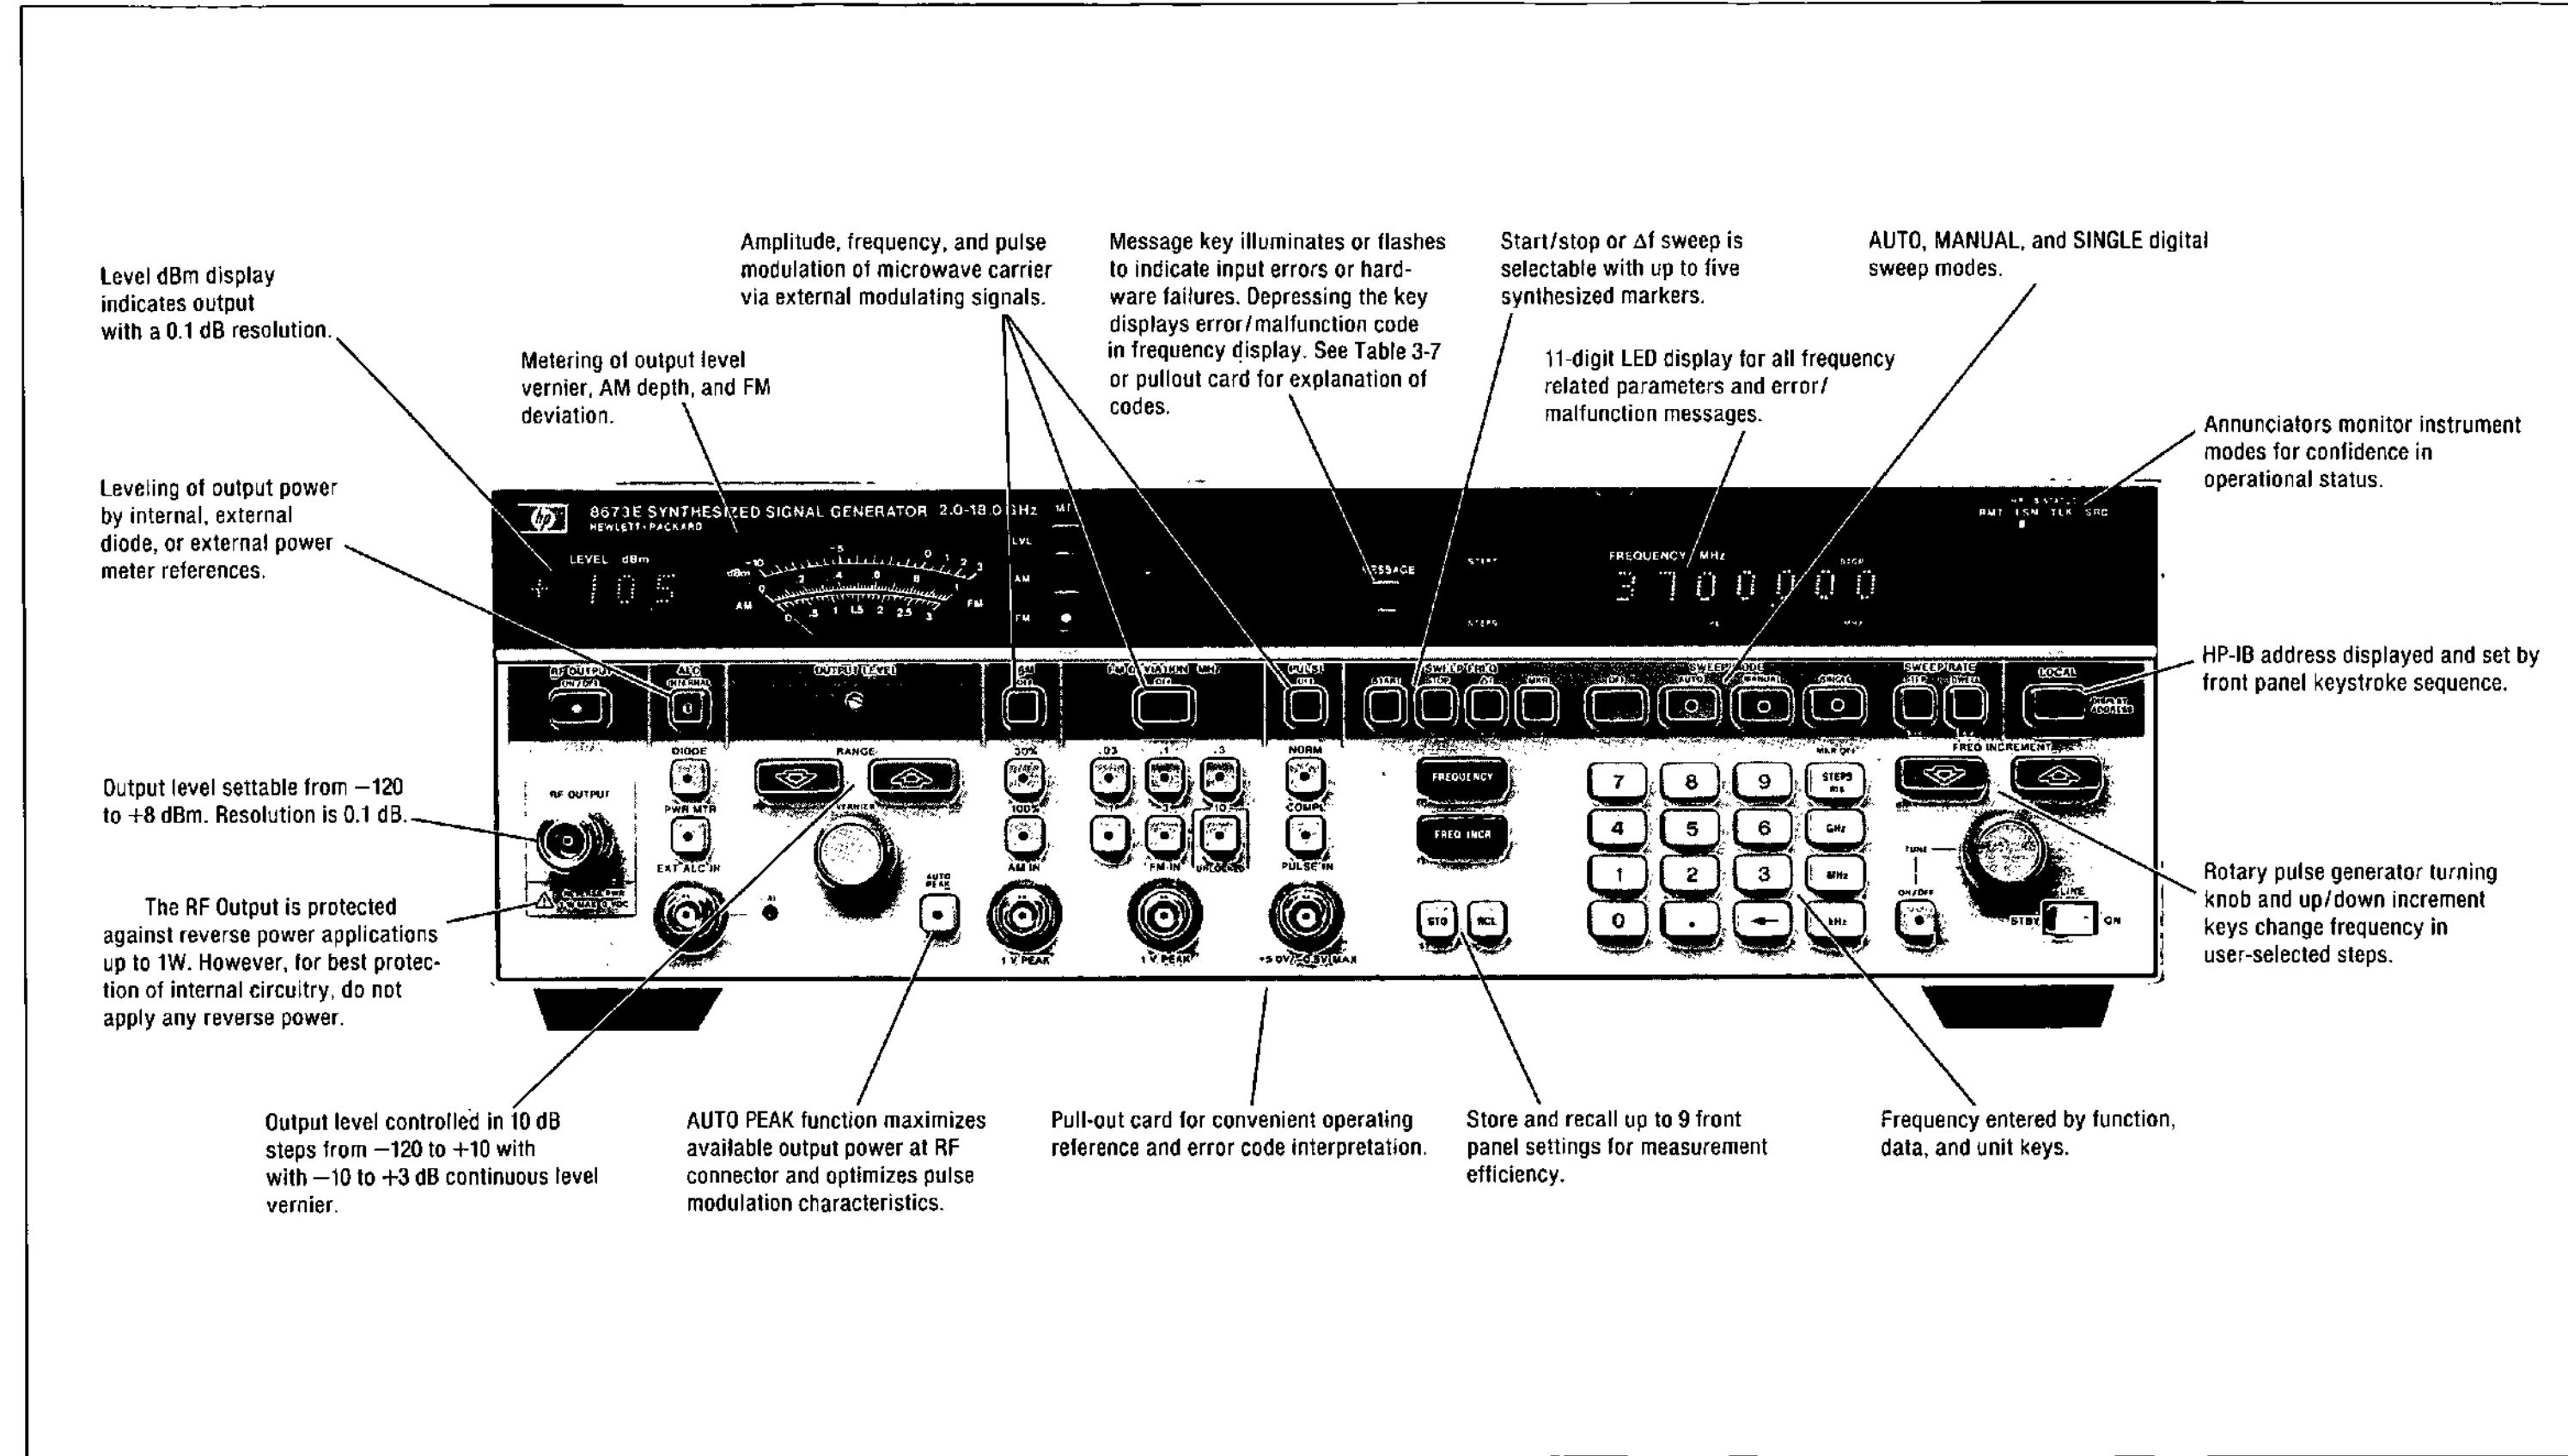

Figure 3-1. Front Panel Features
**Panel Features.** Front and rear panel features are described in detail in Figures 3-1 through 3-7.